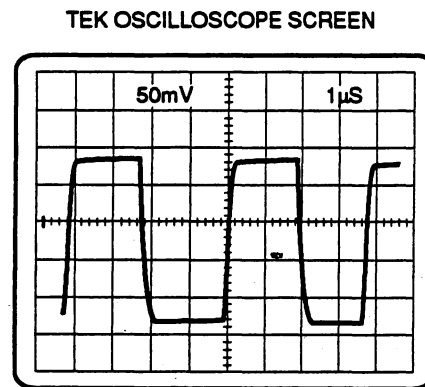

Figure 5-5: Video Preamp High-Frequency Adjustment
3. Adjust R1977 (H.F.) for a waveform with the least amount of oscillation as shown in Figure 5-5.